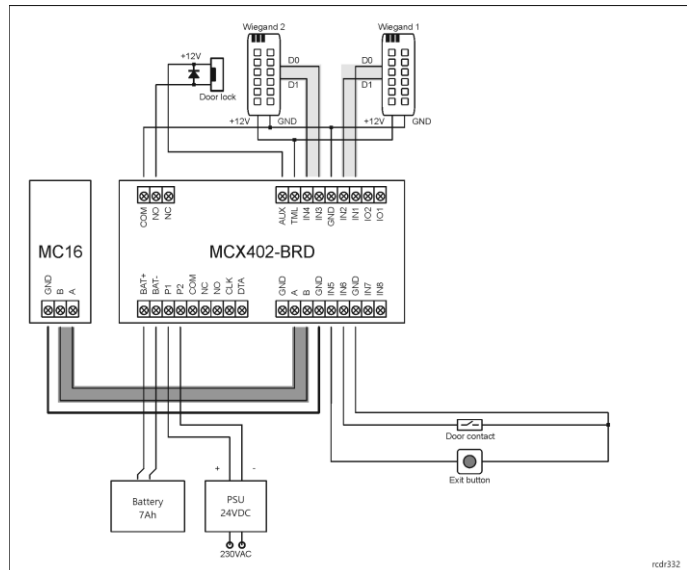

Fig. 4 Typical door control with Wiegand readers
4. Enter unoccupied RS485 address in range of 100-115, enable Wiegand or PRT terminals, configure input types (e.g. NC for IN6 according to fig. 4) and other settings according to requirements of specific installation.